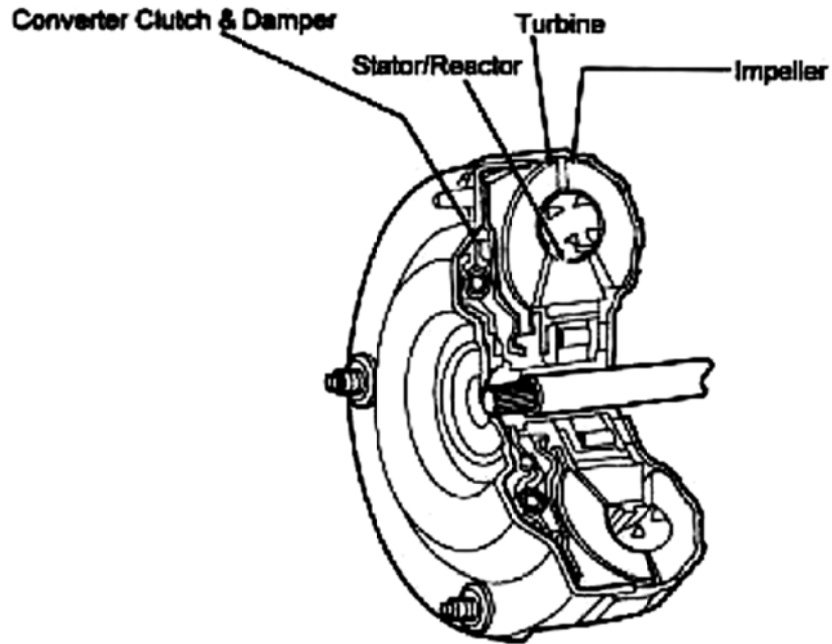

Figure 2
- (d) The **Figure 2** shows the torque converter. Explain how its components operate.